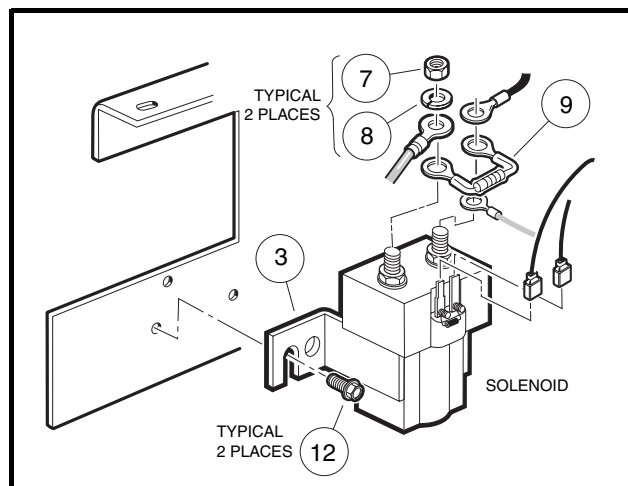

Figure 19-5 Solenoid
3. Disconnect all wires from the solenoid (3) (**Figure 19-5, Page 19-6**).
4. Loosen, but do not remove, the two screws (12) that hold the solenoid (3) to the component mounting plate.
5. Lift the solenoid (3) up and off of the component mounting plate.
1. Mount solenoid (3) onto component mounting plate with screws (12) (**Figure 19-5, Page 19-6**).
2. Tighten screws (12) to 60 in-lb (6.8 N·m).
3. Using the wiring diagram, install the wires, resistor (9), washers (8), and nuts (7) onto the large mounting posts. Tighten nuts to 77 in-lb (8.7 N·m). See **Wiring Diagram, Section 18, Page 18-2**.
4. Install the blue/white and light blue wires onto the small terminals of the solenoid (**Figure 19-5, Page 19-6**).